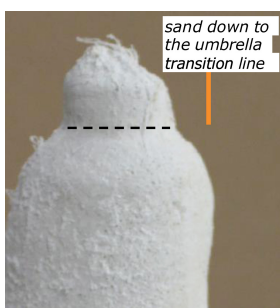

Figure 14a
9. Sand down the distal end of the positive model to the umbrella transition line to create a flat surface on which to place the lock dummy (Figures 14a, 14b).